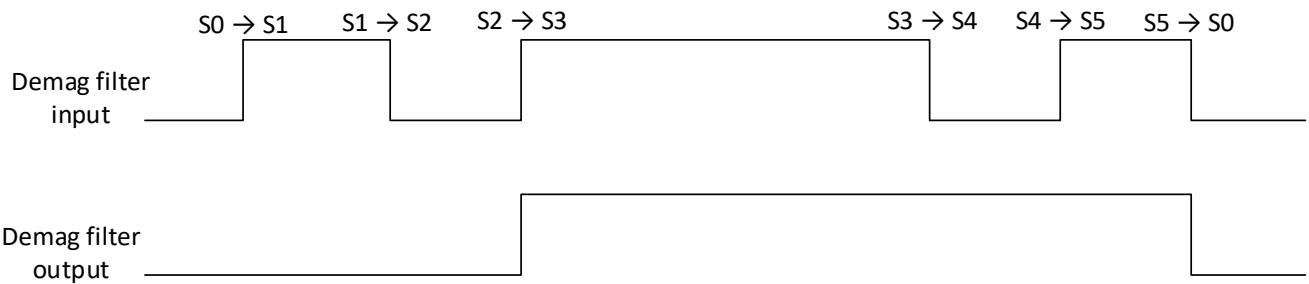

Figure 9 BEMF with two demag-pulses
- BEMF with two demag-pulses (Figure 9)